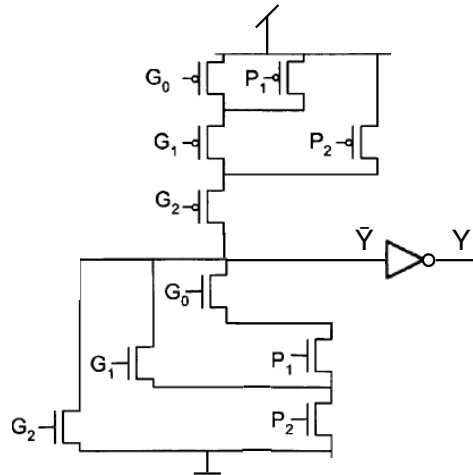

Figure 2: The schematic for a five-input cell that can be used in a three-input PG (dot-operator) cell.
Figure 2 shows the circuit schematic for a cell that can be used in a valency-3 PG (that is, dot-operator) cell for a prefix adder.
- Is it possible to lay out the compound gate as drawn in the schematic in Figure 2 using continuous-line-of-diffusion for both the n-net and the p-net? Motivate. (2p)